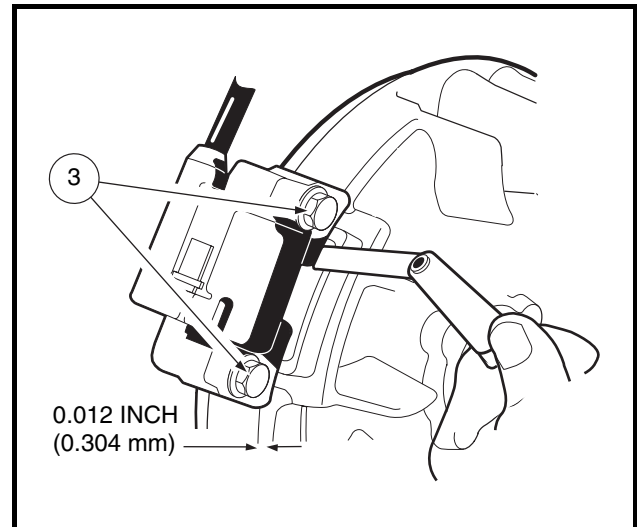

Figure 13-11 Adjust Ignition Coil Air Gap
2. While tightening the two bolts (3), use a bronze feeler gauge to adjust the ignition coil air gap to 0.012 inch (0.304 mm) (Figure 13-11, Page 13-8).